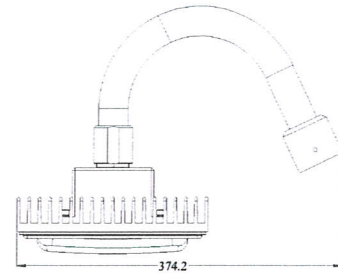

Figure 3
- ☞ Tighten tube locking setscrew to conduit, 1.0 N-m. (Figures 3)